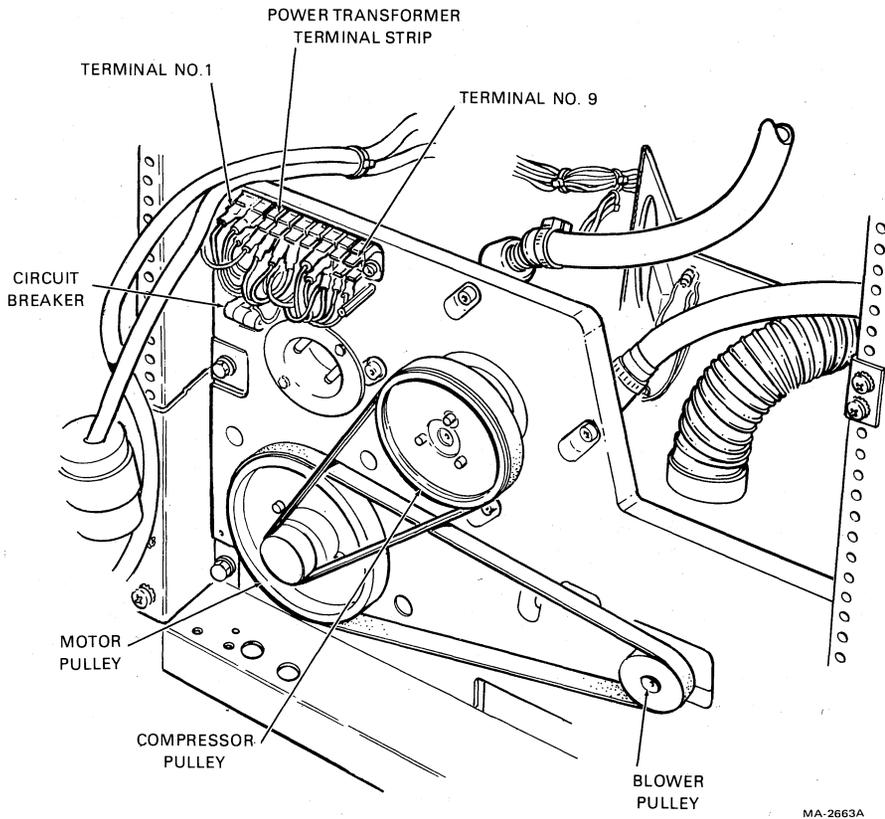

Figure 3-8 Rear of Power Pack with Pulley Cover Removed
4. Remove the cover from the power transformer terminal strip (Figure 3-8). (The ac input plug on power pack must also be removed.) Check that the blue, brown, and white/red wires are connected to the lower terminals (Table 3-1). The terminals are numbered 1 through 9, from left to right. Replace the cover and connect the power pack connector.
6. Remove the pulley cover from the rear of the transport power pack (Figure 3-8). Spin the ac motor pulley by hand and check that the blower and compressor belts are tight and track properly.
4. Remove the cover from the power transformer terminal strip (Figure 3-8). (The ac input plug on the power pack must also be removed.) Check that the blue, brown, and white/red wires are connected to the lower terminals (Table 3-1). The terminals are numbered 1 through 9, from left to right. Replace the cover and connect the power pack connector.
6. Remove the pulley cover from the rear of the transport power pack (Figure 3-8).